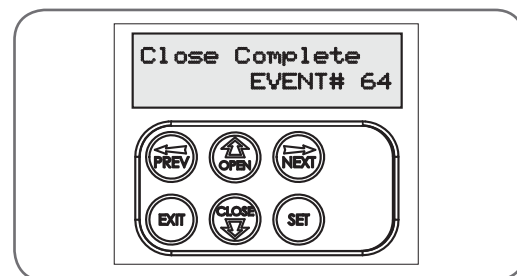

Fig E.5
The NeoSlider™ keeps a record of the last 64 events that have taken place. The events include the type of drive cycles executed, obstruction detection, various faults, power failures etc. When this tool is selected, the screen displays the last event that occurred (**Fig. E.5**). Press NEXT or PREV to view each event. The "EVENT#" field shows the sequence of the events, with (1) being the first and (64) being the last. The example shows that the last event was a close cycle which succeeded in closing the gate. When finished viewing the events, press EXIT.